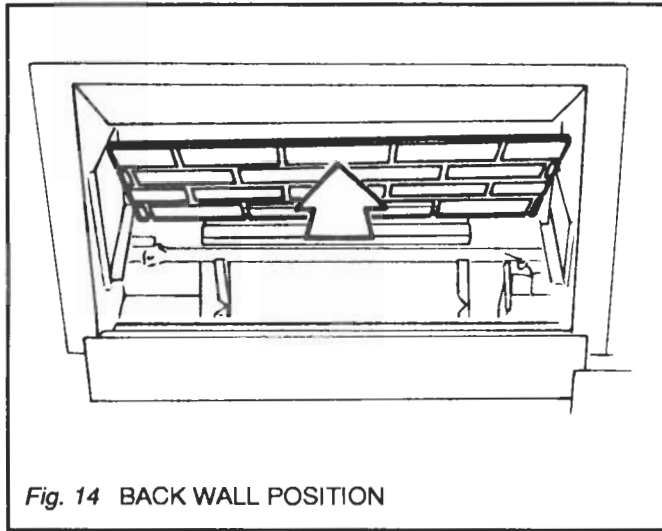

Fig. 14 BACK WALL POSITION
12.1. Place the ceramic back wall in position centrally at back of the firebox. It must rest on the metal ledge at the back of the firebox (see fig. 14).